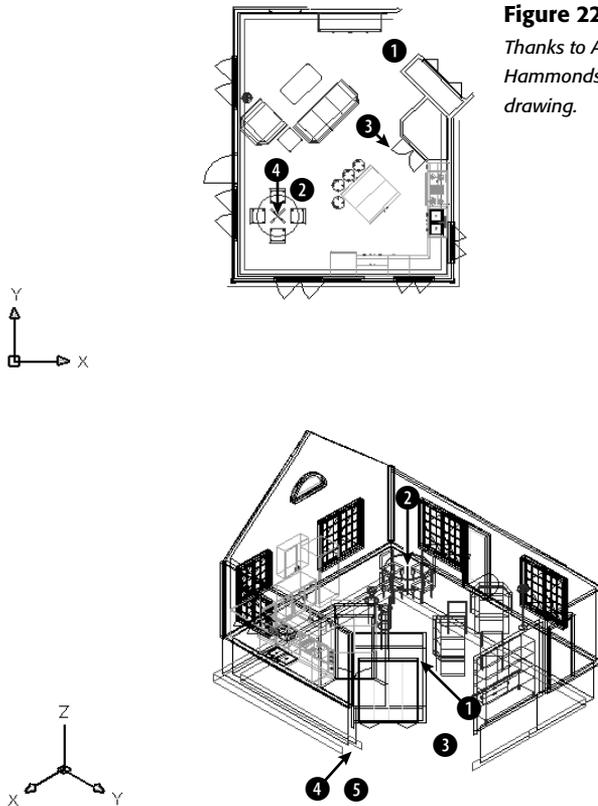

Figure 22-33: A 3D house in plan view.
2. Save it as ab22-03.dwg in your AutoCAD Bible folder. This is a portion of a 3D house in plan view, as shown in Figure 22-33. Make sure that OSNAP is on. Set a running object snap set for endpoint and turn off any other object snaps.
3. You want to create a perspective view from approximately ① to ② in Figure 22-33. You can see right away that the wall near ① will need clipping. To get the distance of the clipping plane from the target, choose Tools ⇨ Inquiry ⇨ Distance and pick ③ and ④. The pertinent information is Distance = 12'-5 9/16". You may get a slightly different distance. To see the distance information, press F2 to open the Text window.